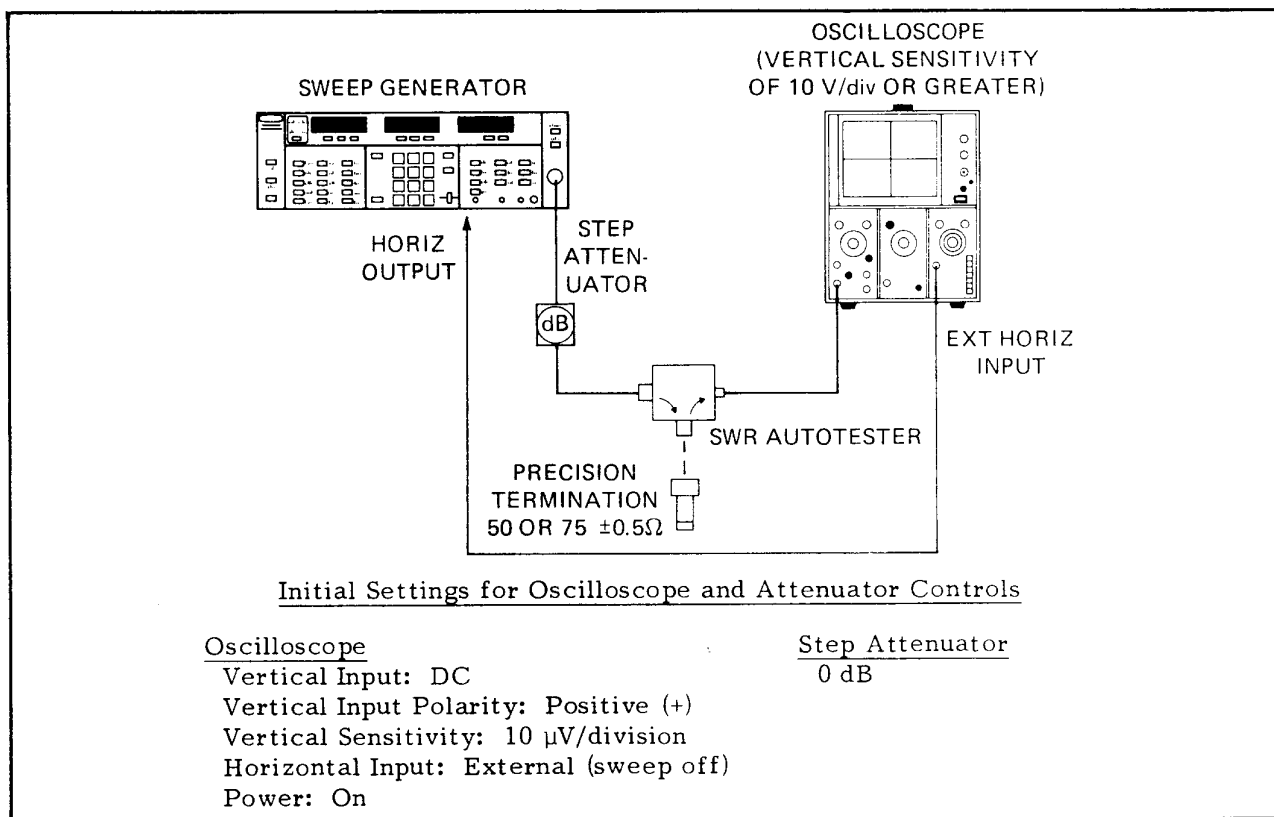

Figure 4-13. Equipment Setup for Direct, Go/No-Go Test
1. Set up the equipment as shown in Figure 4-13. Position the oscilloscope and step attenuator controls as shown. Do not connect the termination to the test port.